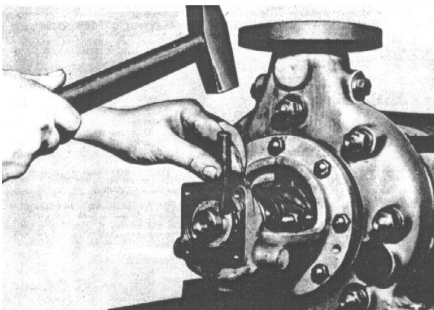

Fig. 3
- Unscrew the Bearing's Bushing Fixture, using a pin or spanner and a hammer. (See fig. 3)